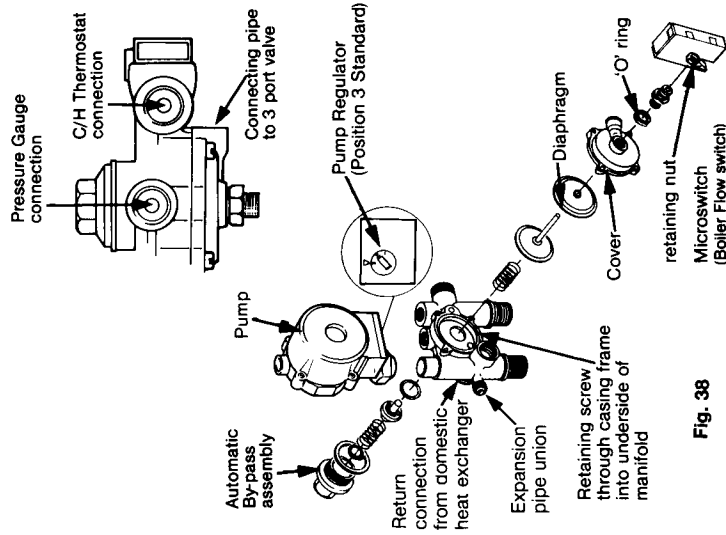

Fig. 38
- Refer to fig. 38
Release cover retaining screws and ease off with a screwdriver. Refer to fig. 38 for location of components. Replace in reverse order, ensuring that washers are replaced in all union connections.